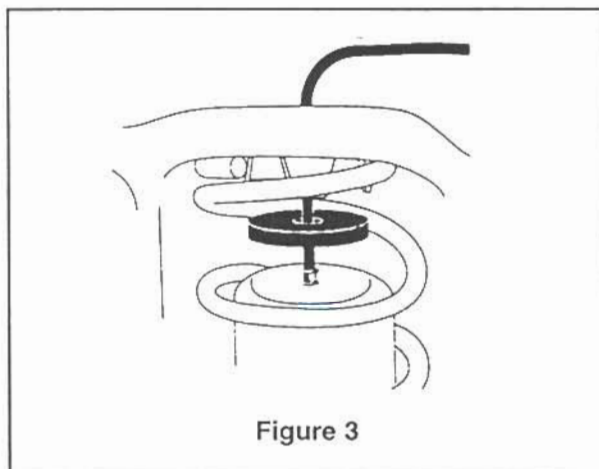

Figure 3
**8B** Push cylinder to the bottom of the coil and insert protector at the top (see fig. 3).